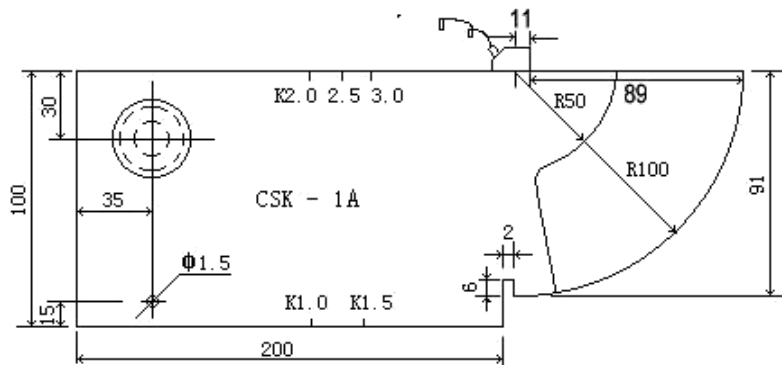
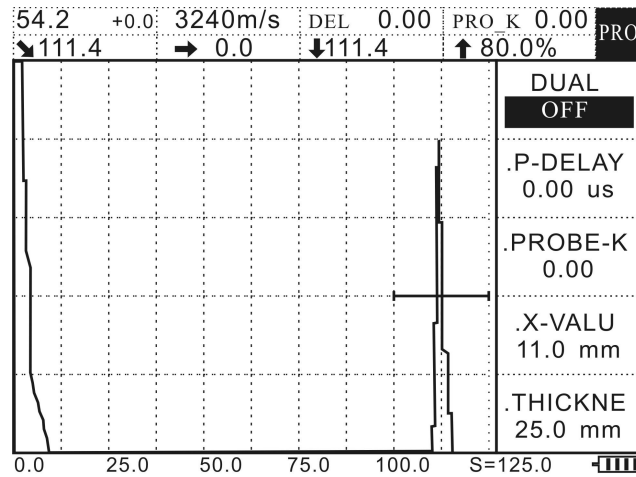

Figure 4-4
Figure 4-5
3. Calibrate the front edge of the probe: put the probe on the test block and move it till the reflector echo of the hollows of R100mm reach the highest level, measure 89mm of the front face of the probe with a ruler, at this point, the front edge value of the probe is: $100-89=11\text{mm}$. As shown in Figure 4-4, after that, press **PROBE** to enter the probe menu, then press  (up) or  (down) to select the probe front edge submenu, press  (left) or  (right) to set the probe front edge value as 11mm, as shown in Figure 4-5.